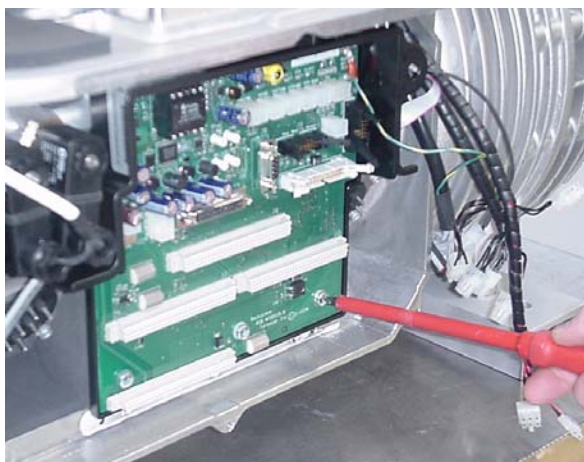

Figure 6-5 Removing the Backplane Mounting Screws
13. Remove the three Phillips-head screws (including the frame ground screw) that secure the backplane to the service-side housing. Refer to Figure 6-5.